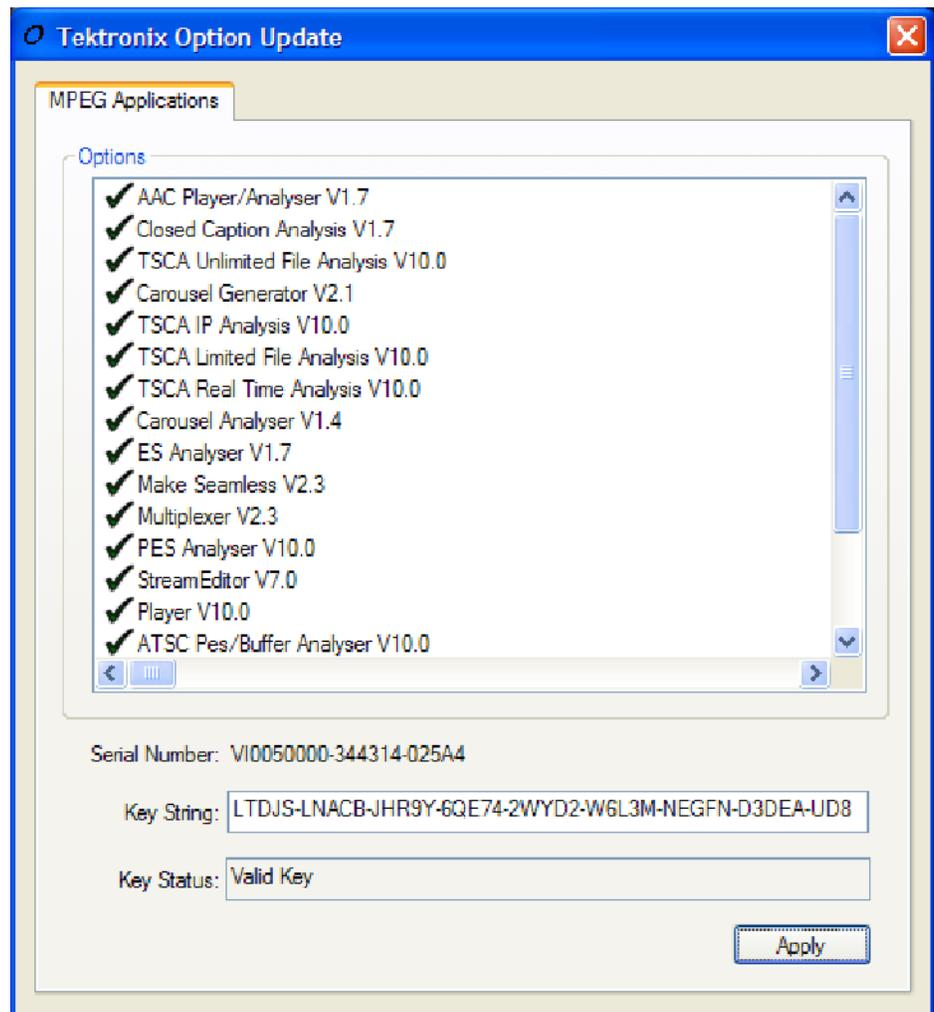

Figure 24: Tektronix Option Update Wizard - Complete
15. Inspect and verify the list of licensed options (see Figure 24).